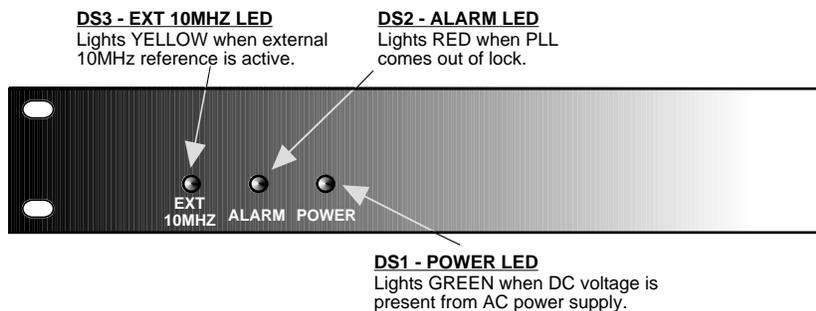

FIGURE 2.2 Front Panel Controls and Indicators
Figure 2.2 shows the front panel indicators.
4. Be sure DS1 (green, DC Power) is on and DS2 (red, Alarm) is off (Figure 2.2).
6. If EXT is selected or AUTO is selected and there is a 10MHz, 3 dBm signal at J2, check that DS3 (yellow, Ext 10MHZ) is on (Figure 2.2).